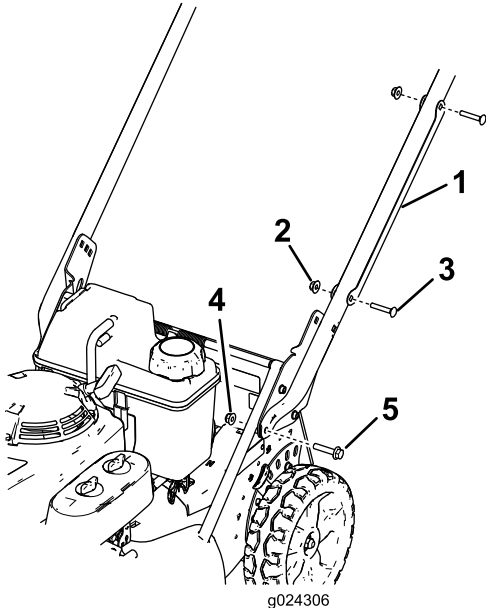

Figure 3
1. Remove the cable guard from the handle (Figure 3) by removing the 2 carriage bolts and 2 locknuts that hold the cable guard to the handle.
2. Install the handle ends onto the mower housing with 2 hex-head-flange bolts (5/16 x 1-1/2 inches) and 2 flange nuts (5/16 inch) as shown in Figure 3.
6. Position the cable guard onto the handle with the cable(s) inside the guard, and secure the guard to the handle with the 2 carriage bolts and the 2 locknuts that you previously removed (Figure 3).